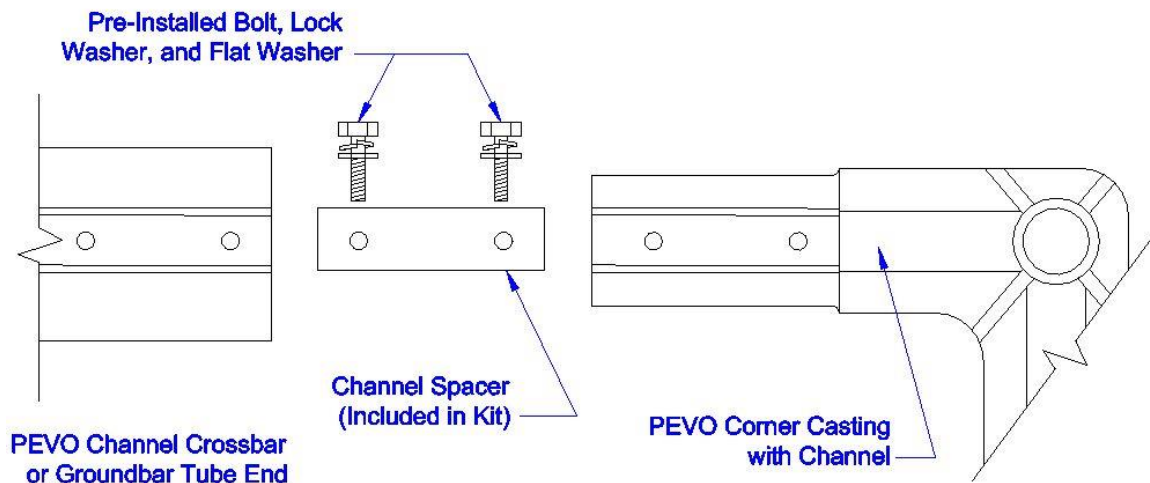

Figure 2. Corner Casting, Crossbar/Ground Bar, and Channel Spacer with Hardware.
6. Align holes in Crossbar with threaded holes in Upright Stub. Install Lock Washer and Flat Washer on Hex Bolt and insert through Crossbar Hole into threaded hole in Upright. (See Figure 2) Use **finger pressure** to turn Bolt in threaded holes to insure proper threading occurs. Tighten Bolts with Wrench until snug with Crossbar. **DO NOT OVER TIGHTEN! DAMAGE TO GOAL MAY OCCUR.**